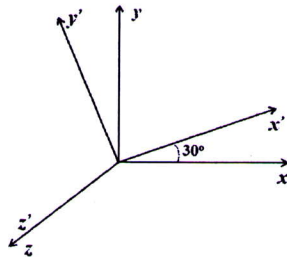

Fig.1
- b) For the above state of stress, determine the stress components and stress invariants (4) relative to the coordinate system (x', y', z') defined by rotating x, y axes through an angle of 30° counterclockwise about the z -axis as shown in Fig.1